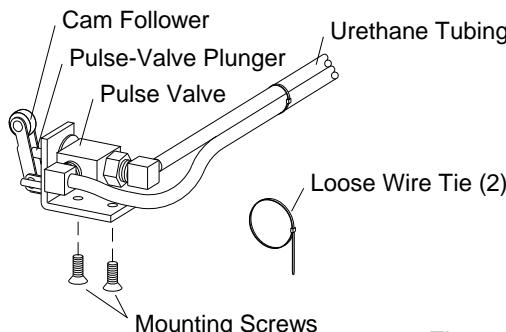

Figure 17
4.3.2 Components of the assembled kit are shown in Figure 17.